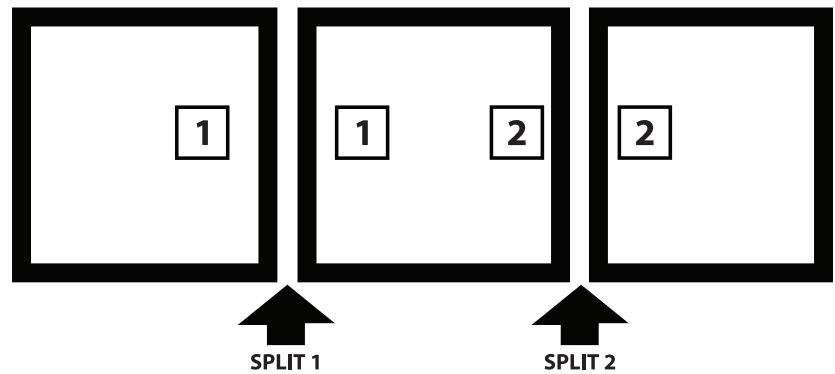

Figure 12. Dehumidifier Section Sequencing
- ▶ To aid with proper placement, sections normally are labeled with sequential numbers (“1”, “2” etc.) – ensure that each pair of adjacent sections at the split have same number (see Figure 12).